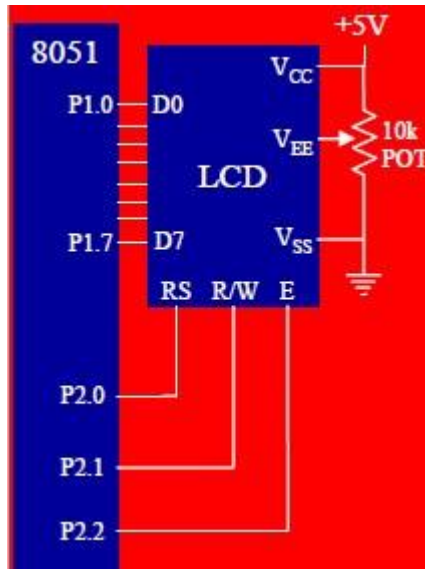

Figure 5.2 LCD Interfacing With 8051
- This is done by connecting one end of a POT to the V_{CC} (5V), other end to the Ground and connecting the center terminal (wiper) of the POT to the V_{EE} pin. (Refer Figure 5.2) **RS:**